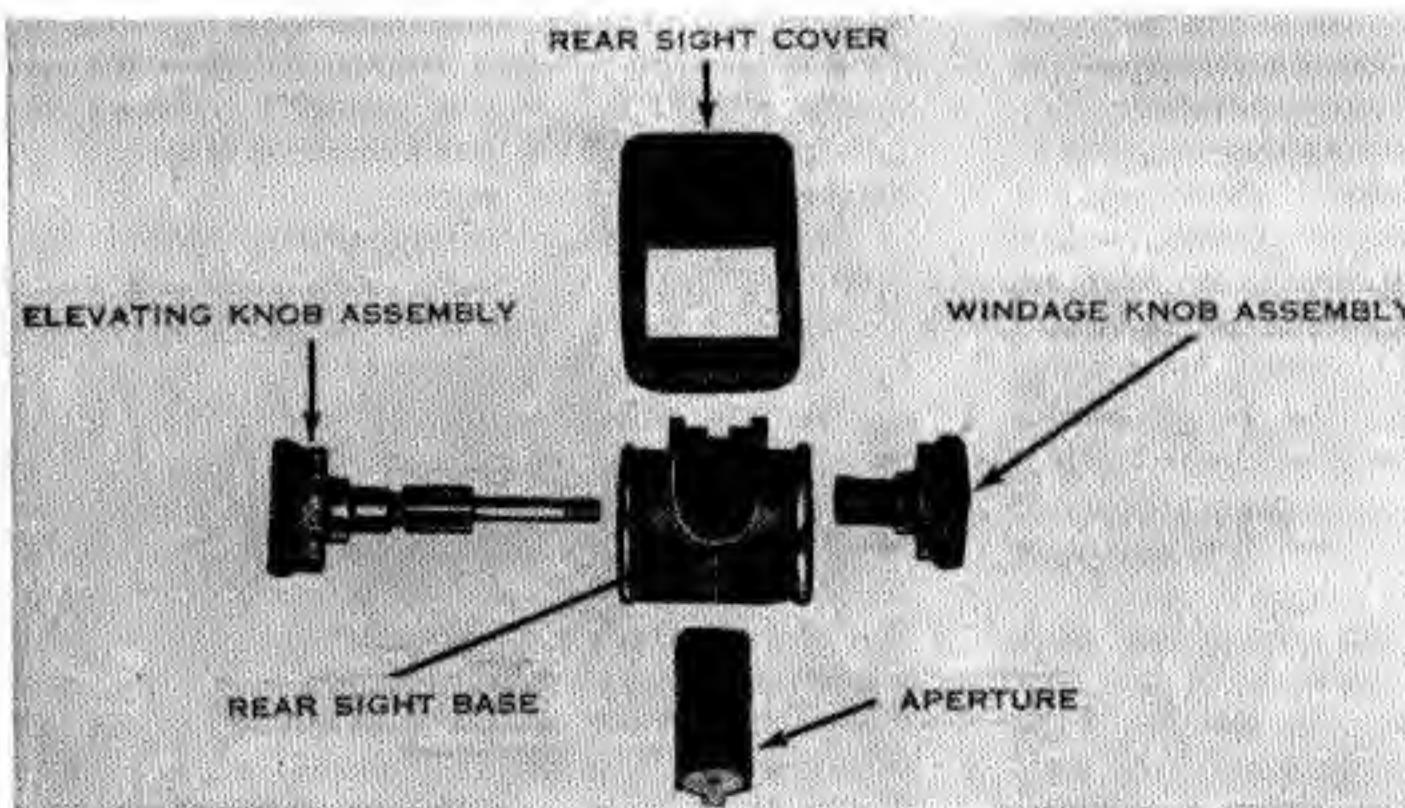

Fig. 70. Parts of new (modified) rear sight.
(3) The newer, modified rear sight eliminates the cross bar on the rear sight locking nut and the counterbored end of the pinion (Fig. 70). The modified sight is disassembled as follows: